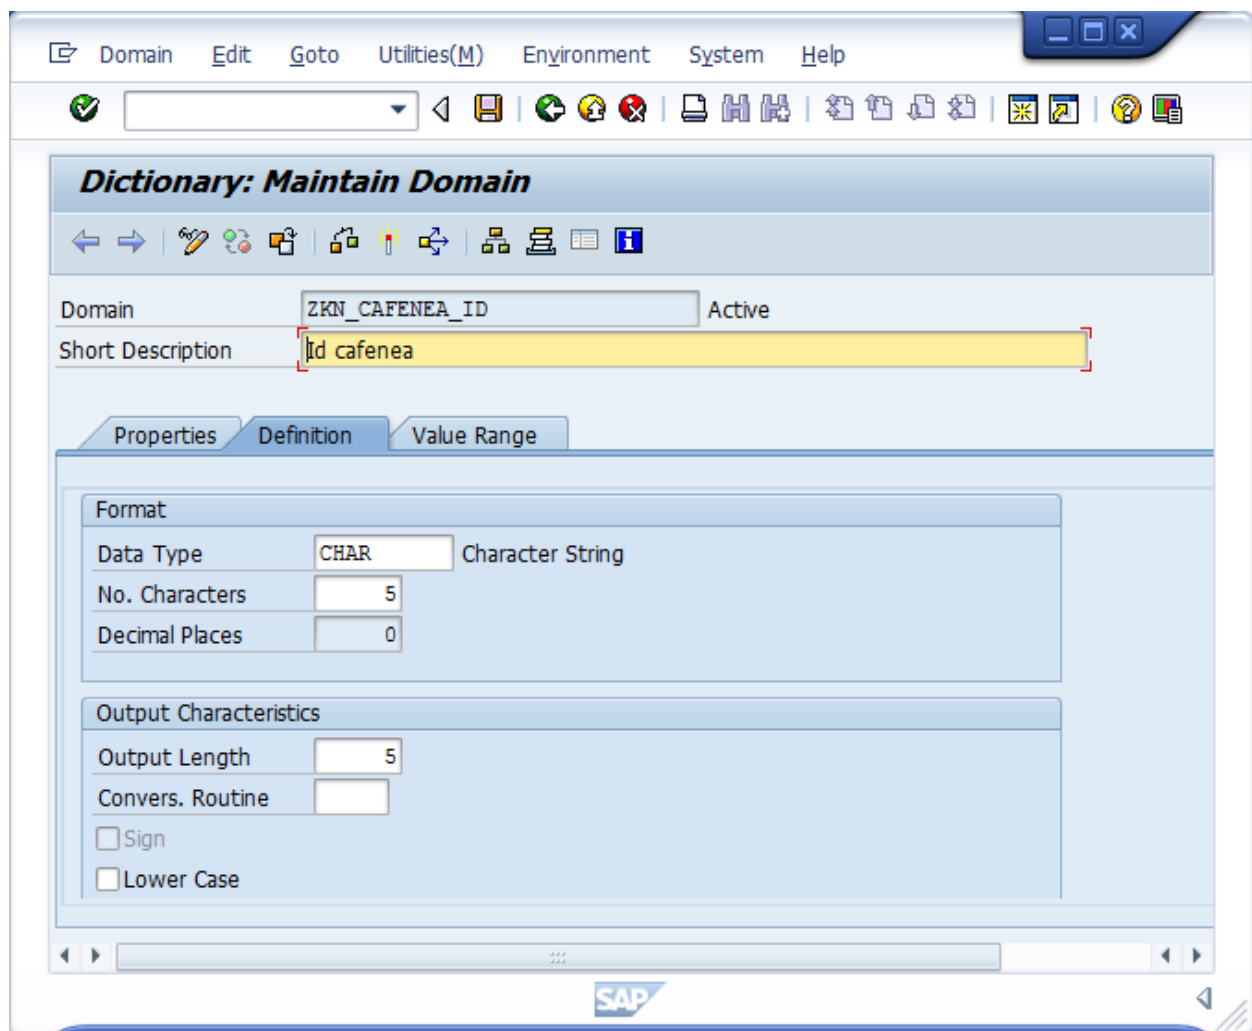

Fig 3.1 – Domain
- Domain – represents the field. Can be used by many data elements (Fig 3.1)